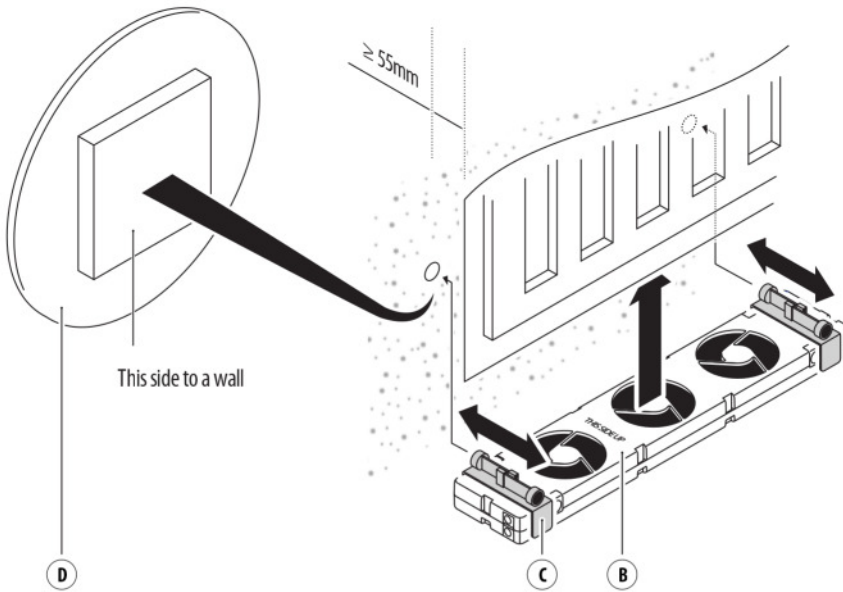

Fig. 7 - Attach the SpeedComfort (B1) to the wall and single plate radiator.
2. Repeat steps 1-7 as for the wide radiator. At the space identified, stick the two **metal plates** (D1, D2) on the wall. Use the **adjustable magnets** (c1, c2, c3, c4) on the **brackets** (C1, C2) to connect the **SpeedComfort** (B1) to the wall and the single plate radiator (see fig. 7).